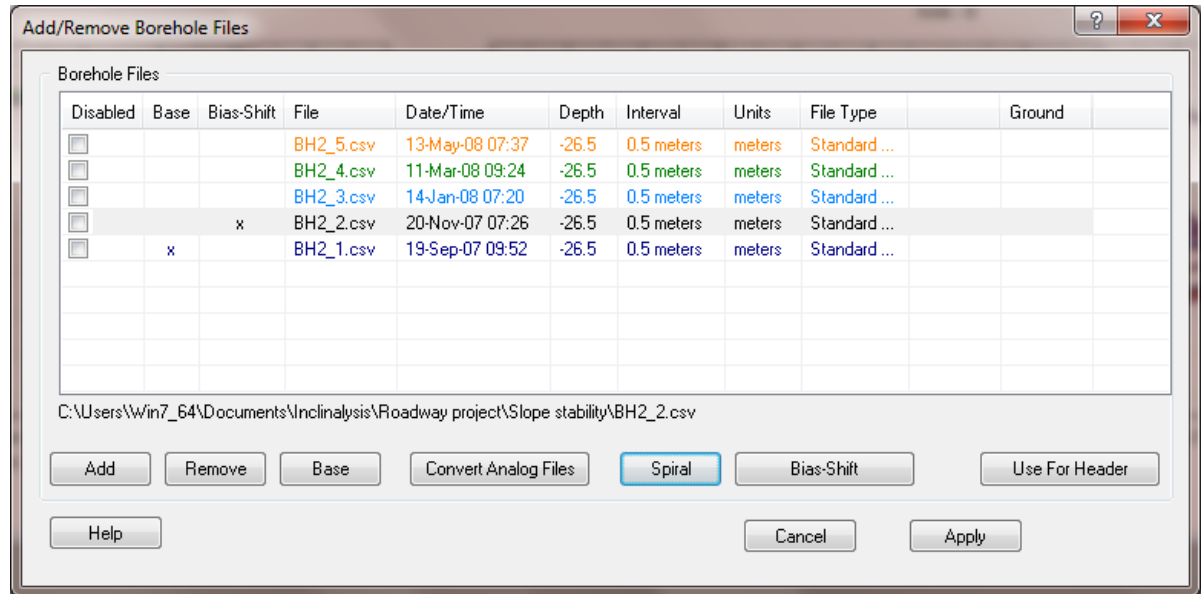

FIGURE 8-27 BIAS-SHIFT CORRECTION DIALOG BOX
- 2 Under the **Edit** menu, choose **Bias-Shift Correction...** A dialog box similar to the **Add/Remove Borehole Files...** option will appear (Figure 8-27).
- 3 Select the desired survey file and press the **Bias-Shift Correction** button. In Figure 8-27, the file BH2_2.csv was chosen. The following dialog box will appear: